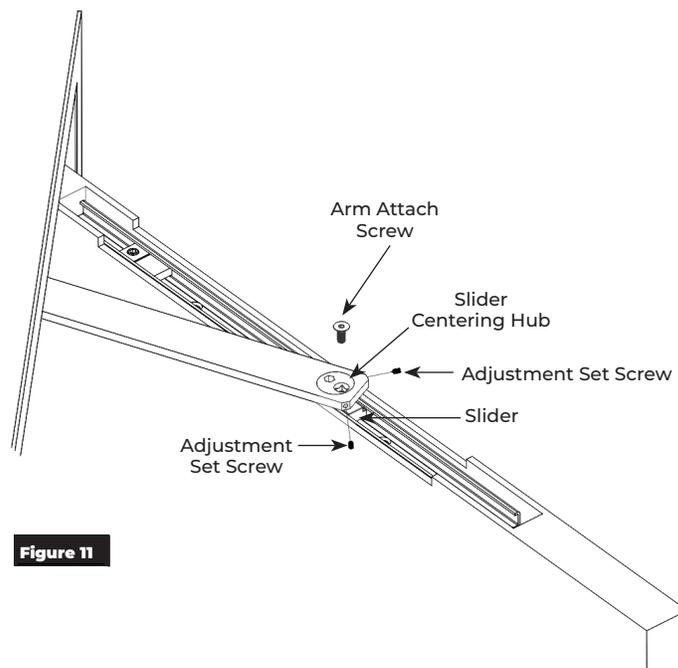

Figure 11
3. Install slider centering hub through arm into slider. (Figure 11)
4. Align hub initially as shown and insert two (2) 10-24 x 3/8" adjustment set screws. Turn both set screws just enough to retain slider centering hub. Do not tighten firmly at this time.
5. Insert arm attach screw, 1/4-20 x 3/4" FH-Allen w/Nylon Patch, and tighten. (Figure 11)